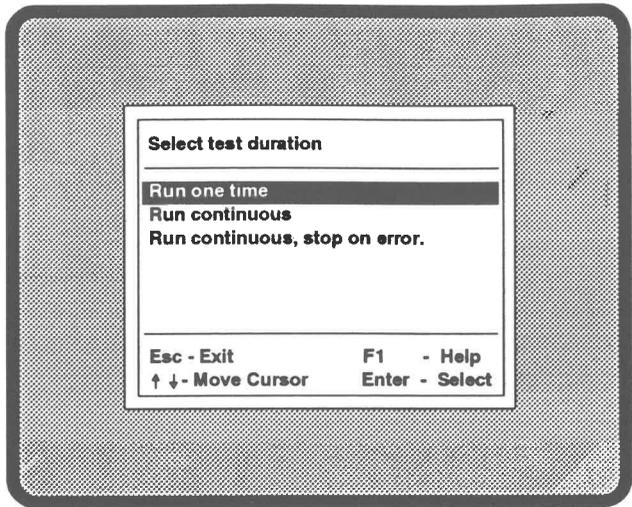

Figure 5-5 Test Duration Menu
6. The **Test Duration Menu** now appears (see Figure 5-5). The **Test Duration Menu** offers three testing methods. Highlight the appropriate testing method, considering the information that follows, and press Enter.